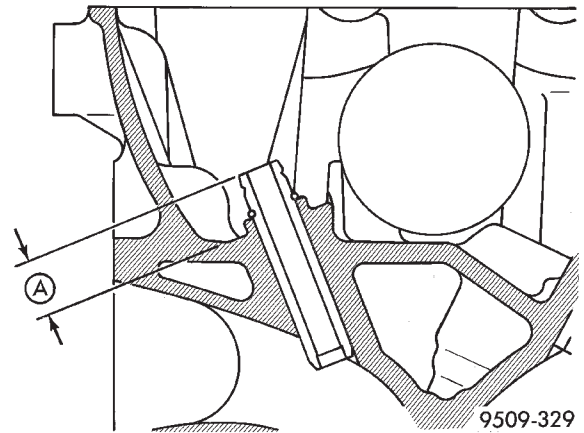

Fig. 110 Valve Guide Height
(3) Check valve guide height (Fig. 110).